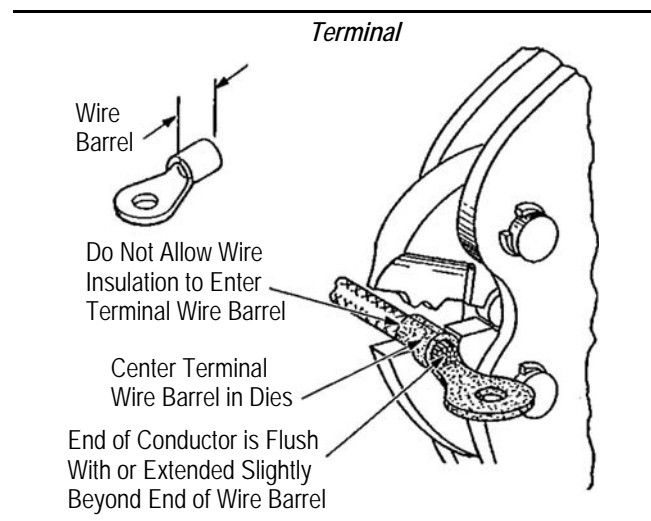

Figure 4
- Insert stripped wire into wire barrel of terminal or splice, as shown in Figure 4, 5, 6, or 7.
- Place terminal or splice in crimping jaws as shown in Figure 4, 5, 6, or 7. For best results, when brazed seam on splice is visible, position seam toward upper jaw.